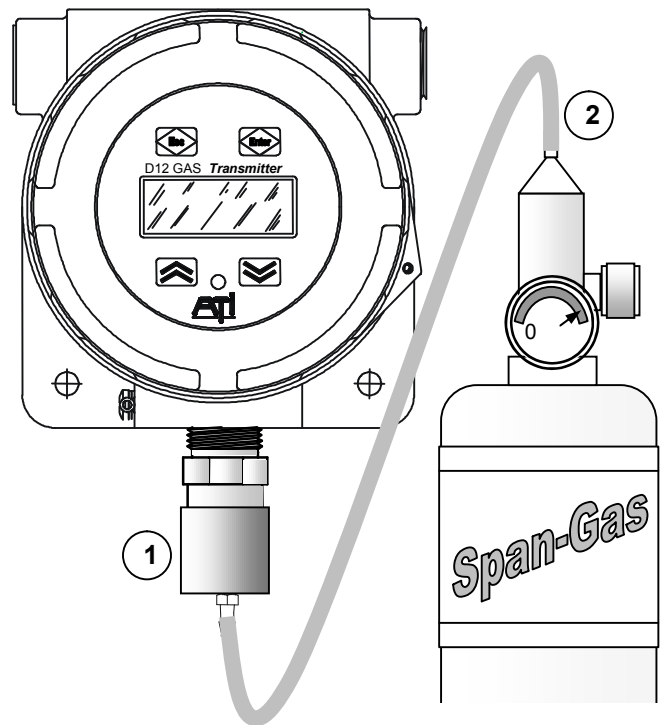

Figure 30 Span calibration
Span calibration* requires a cylinder of “span” gas with a 500 cc/min regulator, calibration adapter, and a convenient length of 1/4” tubing. Referring to Figure 30: screw the calibration adapter onto the exposed end of the sensor and connect one end of the tubing (1), connect the other end of tubing to the cylinder’s regulator (2). Do not open the gas valve until instructed below.